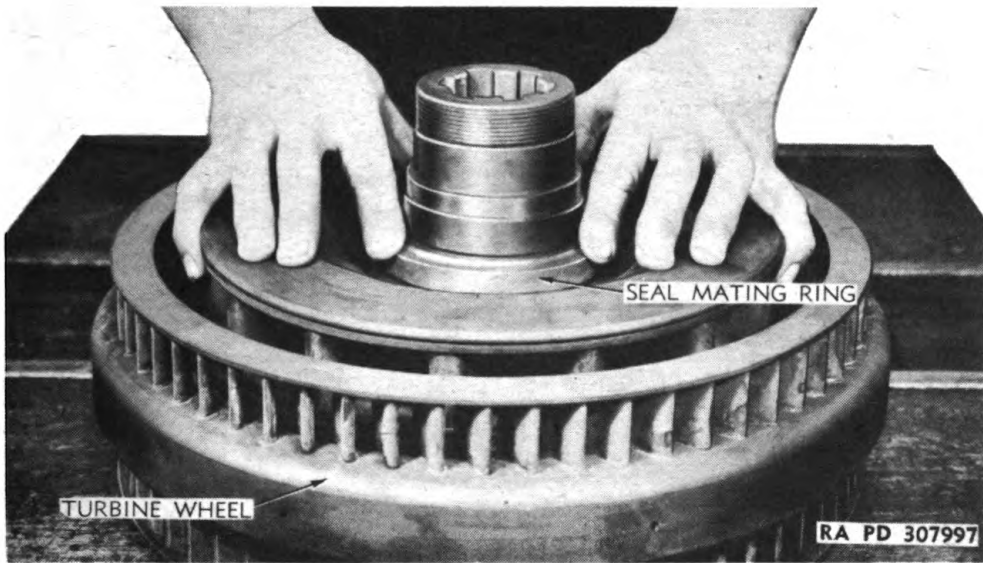

Figure 189 — Installing Turbine Seal Mating Ring and Sealing Washer
h. Assemble Turbine Wheel and Housing. Turn turbine over and install mating ring sealing washer and seal mating ring on turbine hub as shown in figure 189, following the procedure outlined for placing these parts on the impeller hub, step d. Press turbine housing over turbine hub, as shown in figure 190, and install locking washer and nut. Tighten nut with special locking nut wrench and bend lug of locking washer into slot in nut.